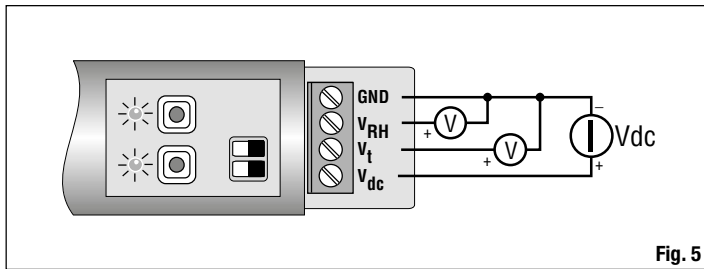
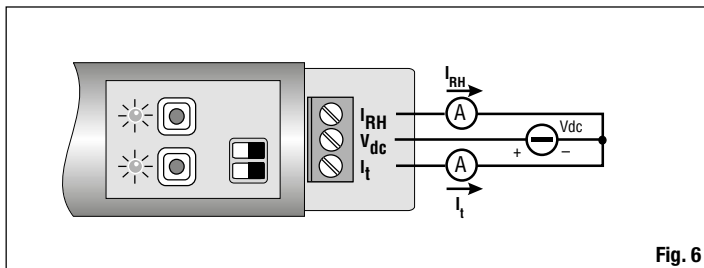

Fig. 5
Fig. 6
2. Connect the wires to provide the instrument with power supply, as shown in the connection diagrams (Fig. 5: HD9008TR and Fig.6: HD9009TR).